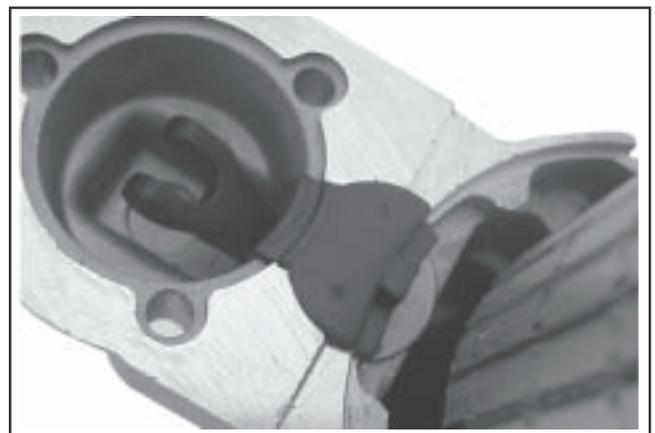

Figure 8-48. Installing Backup Washer and Grommet.
7. Install the backup washer followed by the rubber grommet, into the matching recess of the drive end cap. The molded recesses in the grommet should be **out**, matching and aligned with those in the end cap. See Figure 8-48.